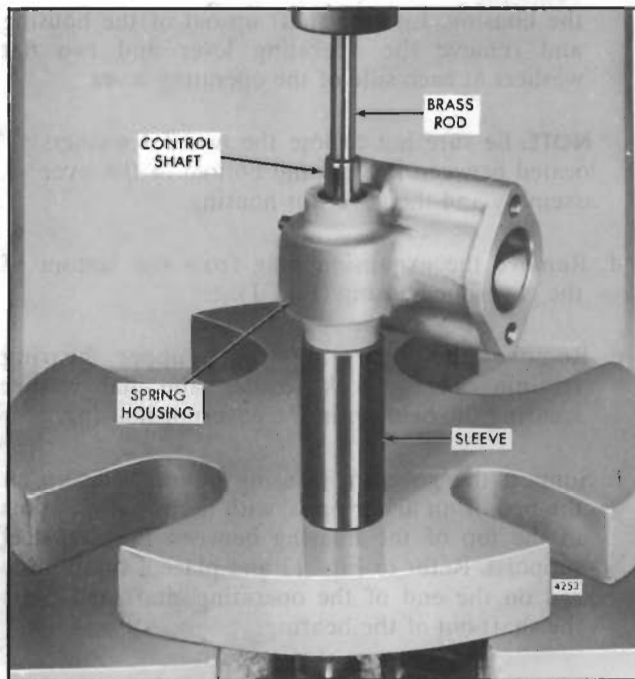

Fig. 7 - Removing Speed Control Shaft, Bearing and Cup Plug from Variable Speed Spring Housing
- e. Place a small brass rod on the end of the shaft and under the ram of the press, as shown in Fig. 7, and press the plug (if used) and bearing out of the spring housing.